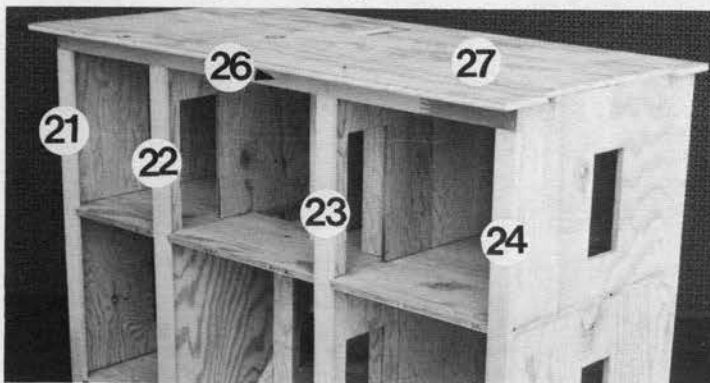

Fig. 12
STEP 11: Install attic floor 27, leave a  $\frac{1}{2}$  inch overhang at the rear and each end, and a  $1\frac{1}{2}$  inch overhang at the front. Be sure attic access opening is in correct position (near stairwell opening). (FIGURE 12).